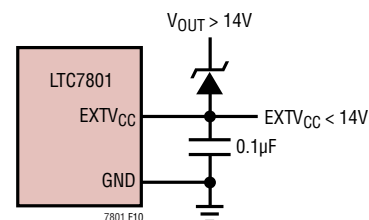

Figure 10. Using a Zener Diode Between V_{OUT} and $EXTV_{CC}$
4. $EXTV_{CC}$ connected to the regulator output through an external zener diode. If the output voltage is greater than 14V, a zener diode can be used to drop the necessary voltage between V_{OUT} and $EXTV_{CC}$ such that $EXTV_{CC}$ remains below 14V (Figure 10). In this configuration, a bypass capacitor on $EXTV_{CC}$ of at least 0.1 μF is recommended. An optional resistor between $EXTV_{CC}$ and GND can be inserted to ensure adequate bias current through the zener diode.